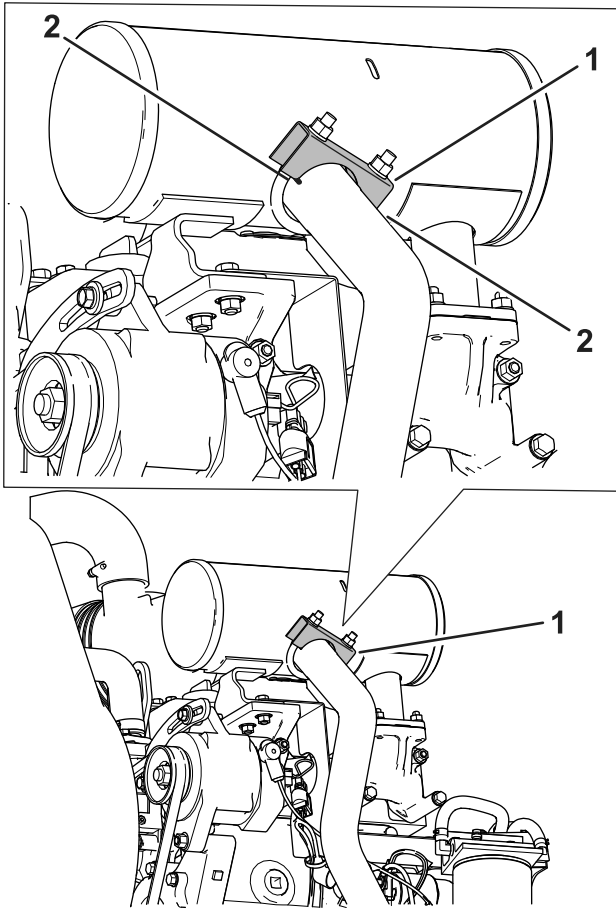

Figure 12
- Align the clamp flush with the end of the exhaust pipe and rotate it as shown in Figure 12.
Note: Ensure the clamping surface is parallel to the slots in the pipe (Figure 12).